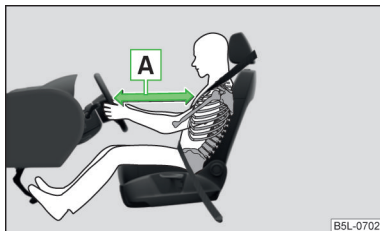

Fig. 9
- For the driver and front passenger, it is important to maintain a distance of at least 25 cm from the steering wheel or dashboard [A] » Fig. 9. Not keeping to this minimum distance will mean that the airbag system will not be able to properly protect you – risk of death! The front seats and the head restraints must always also be correctly adjusted to match the body size of the occupant.